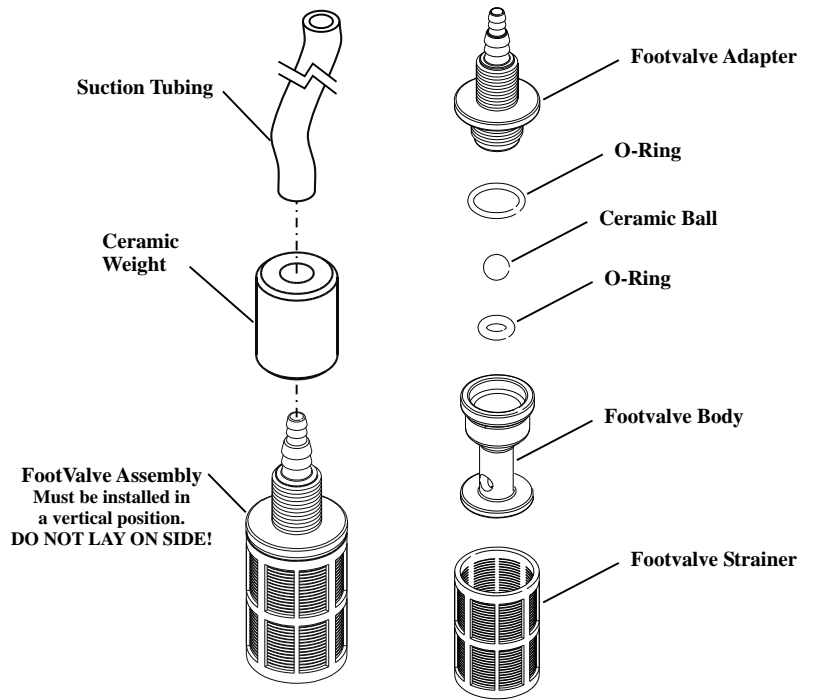

FIG. 4.7 FOOTVALVE ASSY.
- ✓ Periodically clean the suction strainer. Fig.4.7